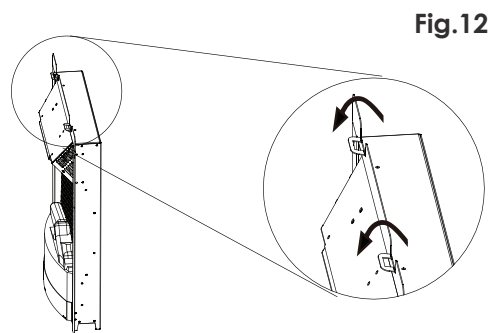

Fig.12
3. Bend forwards the two Capital Fireframe tabs to accept the hooks fitted to the frame. (Fig.12)